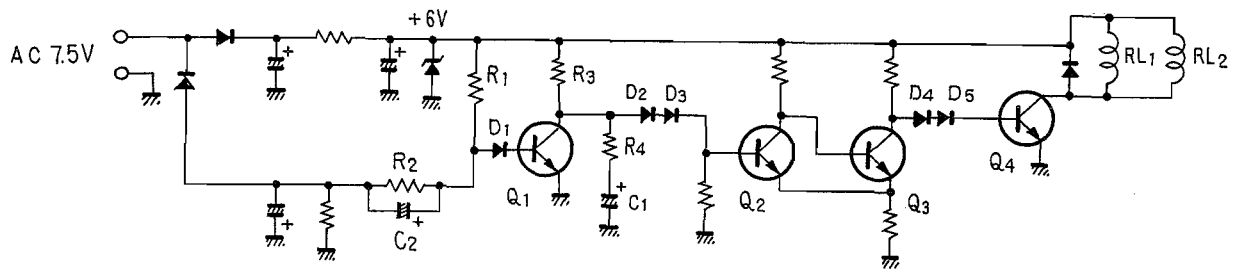

Fig. 9 Muting Circuit
The relay drive circuit is shown in Fig. 9. Relay coils RL1, RL2 are connected in parallel. When the power is turned OFF, the relay contacts are opened.
In Fig. 9, 7.5V (AC) are supplied when the power is turned ON.